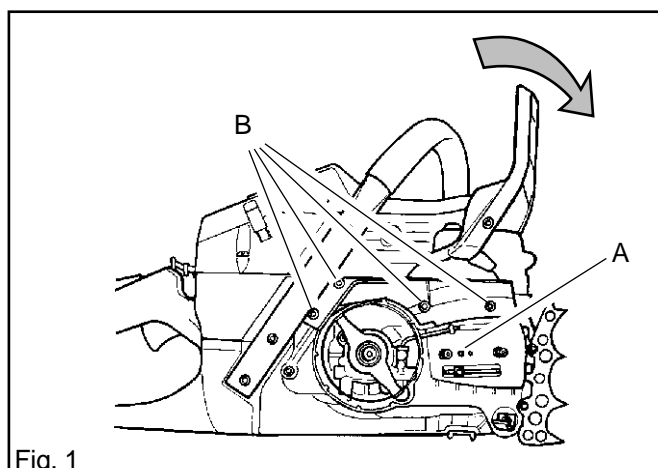

Fig. 1
2. Push the hand guard forward so that the chain brake is on. See fig. 1
4. Remove bolt (A) and chain guide-plate. See fig. 1.
5. Undo the four bolts (B) and remove the chain brake assembly cover. See fig. 1.
5. Locate the chain brake assembly cover, four bolts (B). Tighten the screws to 4 Nm. See fig. 1.
6. Locate the chain guide-plate with bolt (A). See fig. 1.